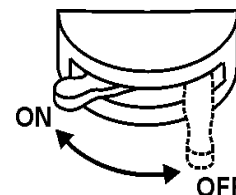

Figure 37. Battery ON/OFF Switch
5. Set the **battery ON/OFF switch** (Figure 37) to the “**ON**” position.